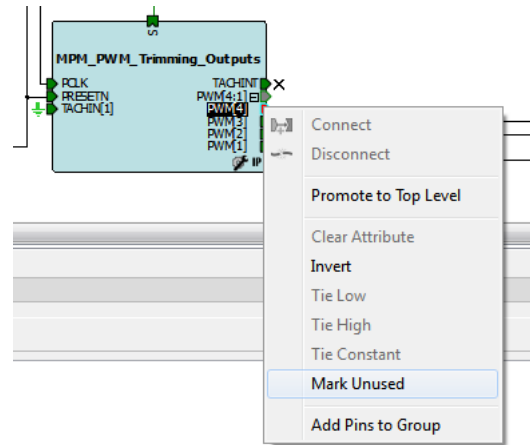

**Figure 41 • PWM[3] Select Modify Port**
6. Modify the PWM[3] port as shown in below Figure 41. Enter the name of the port as MPM\_Channel\_7\_DMPM\_DB\_APOL3\_PWM\_TRIM as shown in Figure 42.